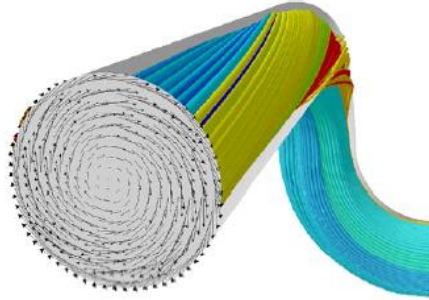

Figure 6 Type 1 swirl after double elbows
1. Type 1 swirl moves in one directional rotation across the pipe. This is also known as whole body swirl, Figure 6. Close coupled double elbows out of plane are a common cause of Type 1 swirl, along with headers, pumps and compressors. Type 1 swirl has a sustained effect and can last much longer in the pipeline than asymmetry or type 2 swirl.